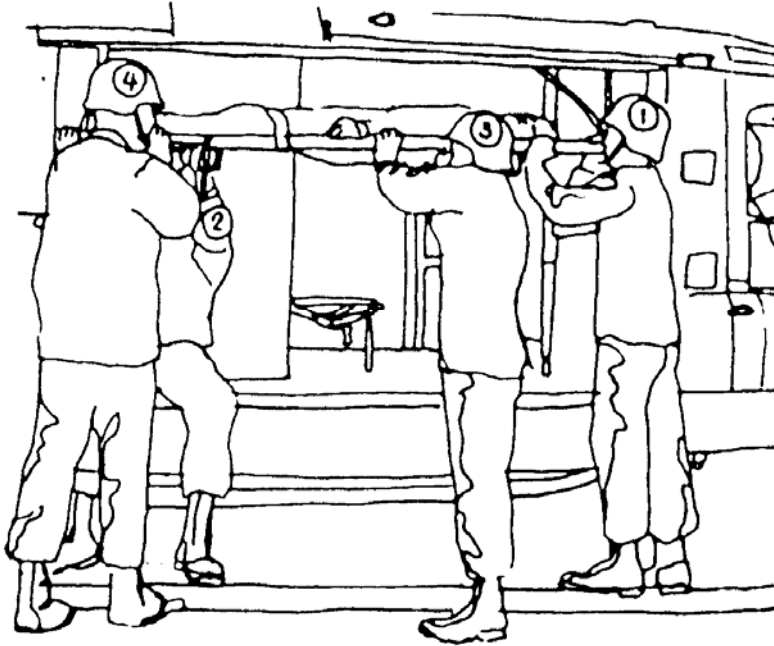

Figure 5-6. Loading the first litter (right side) into an Iroquois air ambulance.
- (3) Lift the litter until the litter handles are even with the brackets that will support the litter handles.
- (4) The bearer at the casualty's inside shoulder (bearer between the helicopter and the casualty's head) gives his handle to a crew member, moves around the front of the litter, and takes the outside front litter handle.
- (5) The litter bearer who releases the outside front litter handle then moves his hands down the litter pole to the middle of the litter to help steady and support the litter.
(6) The litter bearer at the casualty's inside foot (bearer between the helicopter and the casualty's feet) moves inside the cargo compartment while continuing to support his rear litter handle.
(7) The litter bearer inside the helicopter and the assisting crewman holding the inside front handle place their handles in the inner litter support brackets while the litter bearers outside the helicopter at the front and rear of the litter slide their litter handles into the outer litter support brackets (figure 5-6).